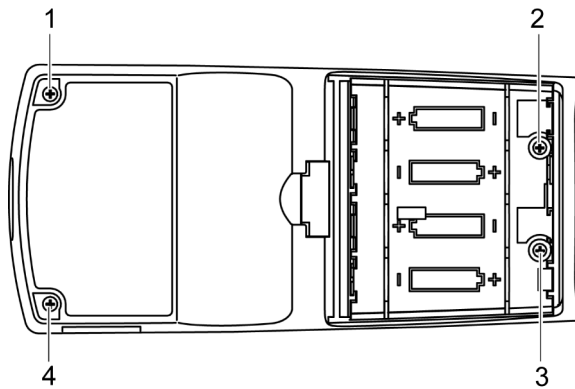

**Figure 11: Battery Spring Alignment**
7. Install the display PCB and CPU PCB into the NPB-40 case. Ensure that the battery springs slip into place. See Figure 11.